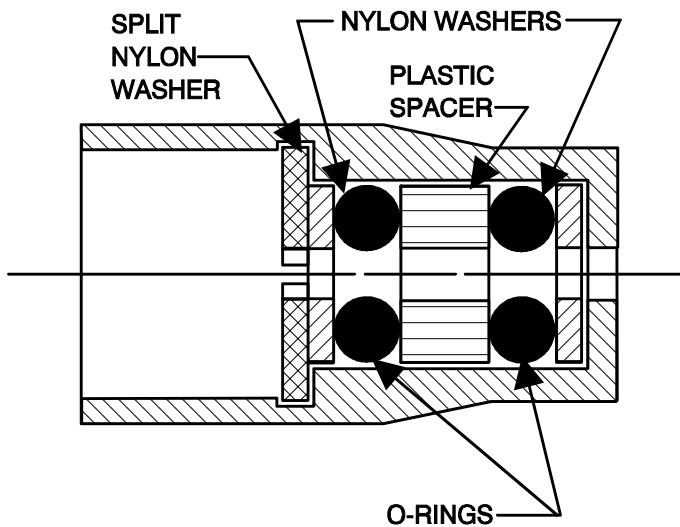
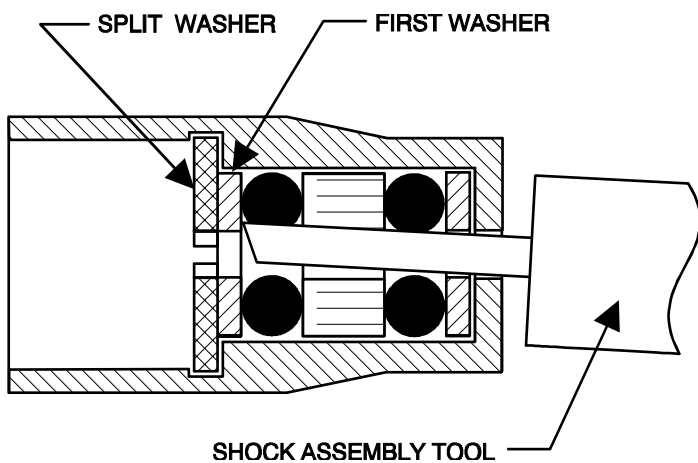

Fig. 122
Fig. 123
To correctly assemble each shock, install the parts on the shock assembly tool in this order: (1) first the split locking washer, (2) then one small nylon washer, (3) red O-ring, (4) large nylon spacer, (5) second red O-ring, (6) and second small nylon washer. You can compare this sequence with layout in fig. 118. Fig. 122 shows a cutaway drawing of the shock body with the internal seal parts installed. **Note:** if you need to replace just a red O-ring, you can purchase them separately under part numbers #5407 (8 red O-rings).
□ **Figs. 122 & 123** **HOW TO DISMANTLE THE SHOCK SEAL PARTS** Fig. 122 shows a cutaway of the bottom portion of the shock showing how all of the parts fit into the shock seal cavity. Fig. 123 is the same cutaway drawing depicting the shock assembly tool removing the shock seal parts.